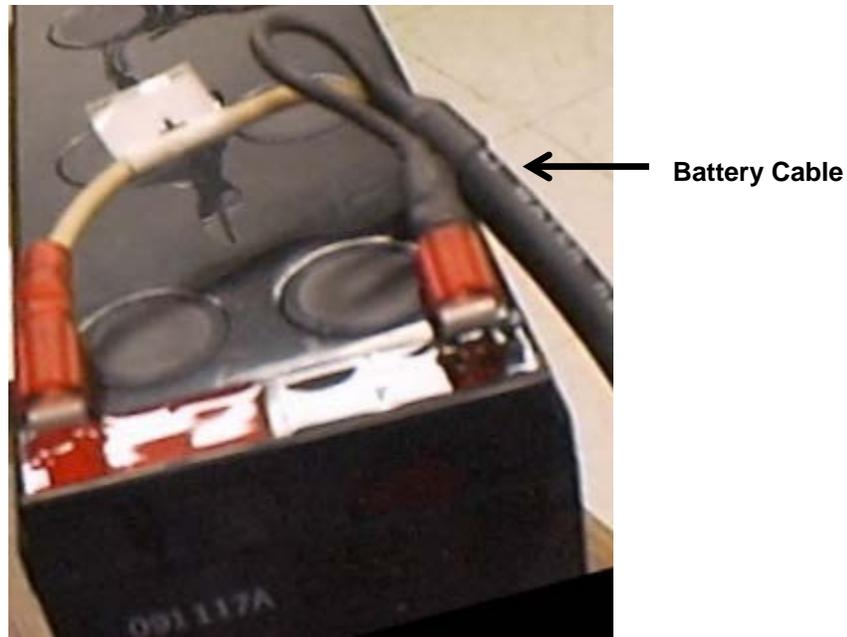

Figure A-18: Battery Cable
3. Locate the battery cable (upper cable on left side of the FPR-E ZENO® Assembly). Plug the cable's black wire onto the battery's negative terminal marked black. Plug the cable's white wire onto the positive, red-marked battery terminal. The ZENO® data logger will start up when power is applied (see Figure A-18).